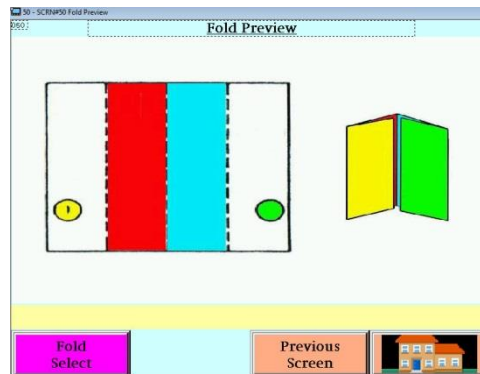

Figure 16
8. Press either the Purple **Enter & Go To Summary** button or the purple **Enter & Go To Tutorials** button when done with your selections to activate the fold and initiate the calculations for fold lengths and gapsets. If **Enter & Go To Tutorials** button is chosen the display will show the first feeder setup point and will step you through each step one at a time. If you choose not to activate this fold, you may use the **Go Back To fold Selection** to pick a different choice. See Figure 16